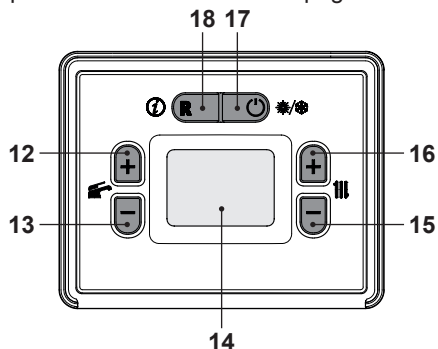

Fig. 8.29
- By using buttons 15 or 16 (Fig. 8.29) it is possible to modify the value of parameter A49:
- Press 12 or 13 (Fig. 8.29) to confirm the value entered and return to the list of parameters (Fig. 8.30).
- Press the 17 (Fig. 8.29) to exit “programming mode”.